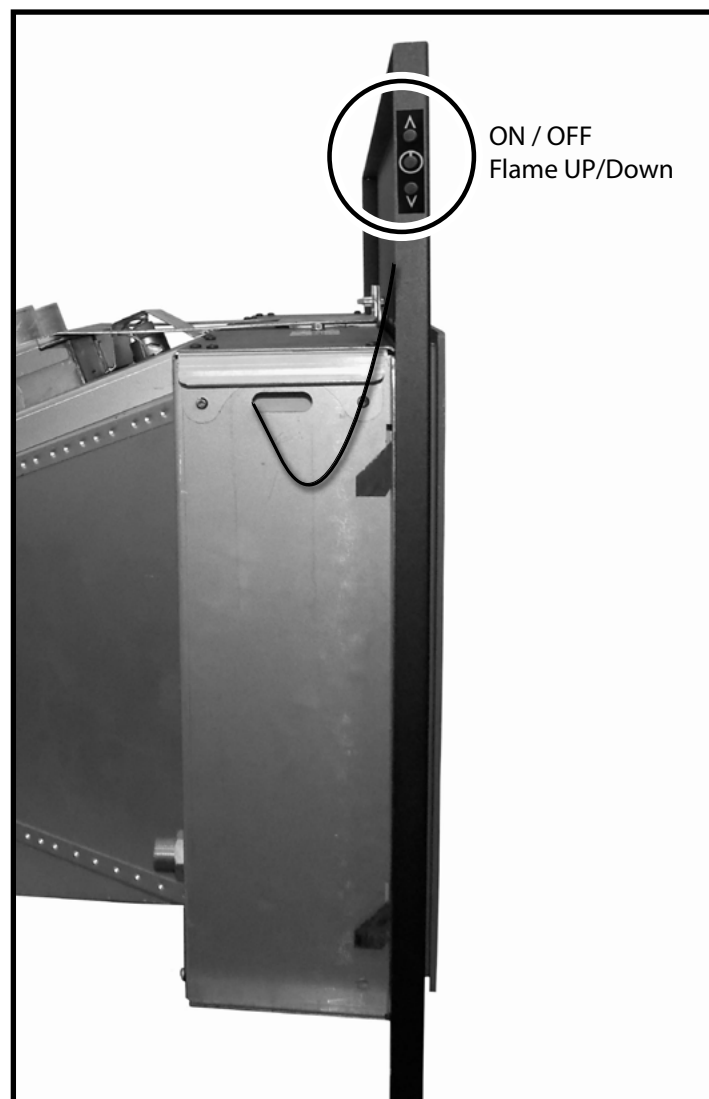

Figure 112: On Off switch location for Maxitrol units.
4. Install the surround backing plate and surround (Figure 112).